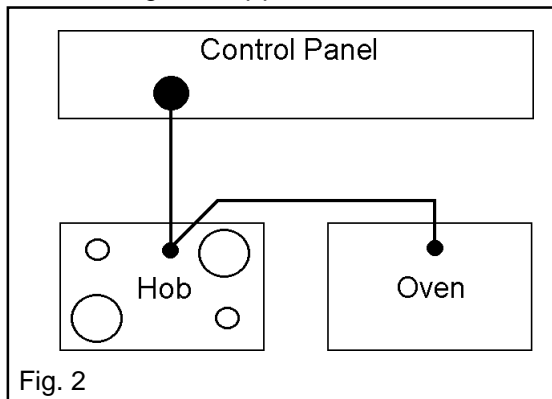

Fig. 2
- ii) By connecting the cooker point to the hob and then connecting the hob to the oven. Provided that the hob manufacturer permits it, connect the oven to the hob and the hob to the cooker point using the same cabling as described in (a) above. Check the hob terminal block is large enough to take two cables and is of suitable rating. If not b) i) on page 8 must be used. See Fig. 2.